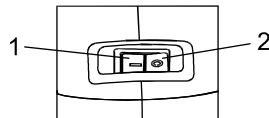

Fig. 6
To turn the switch ON, press the right hand side of the ON/OFF switch (1) (see Fig. 6). To turn the switch OFF, press the left hand side of the ON/OFF switch (2).